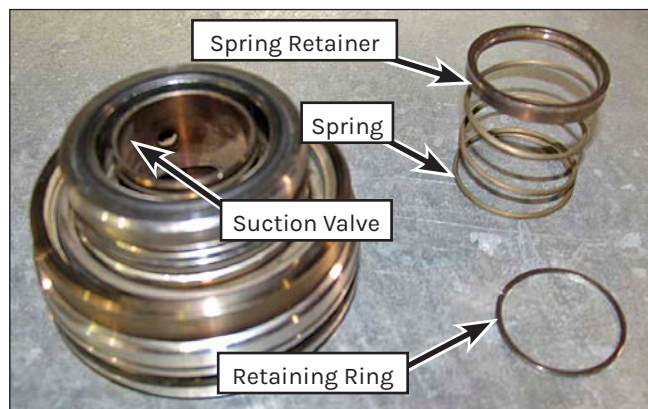

Figure 117: Suction Valve Installation.
3. Position the suction valve in the valve body (Figure 117).